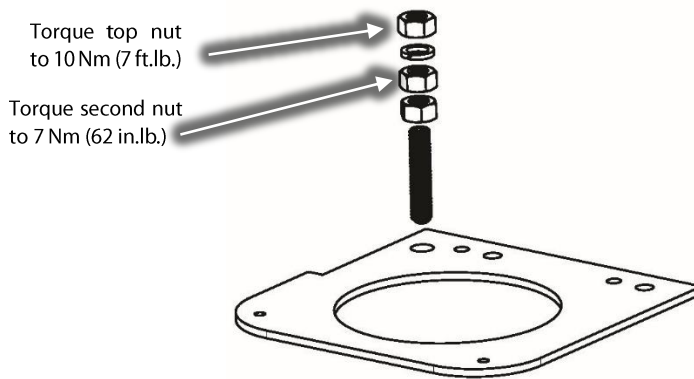

Figure 2 – Ground Location
9. Disconnect the Soft Start ground wire by removing the top nut and mains input ground wire from the ground post on the compressor housing at 3-phase connection point. Refer to Figure 2 (Ground Location).